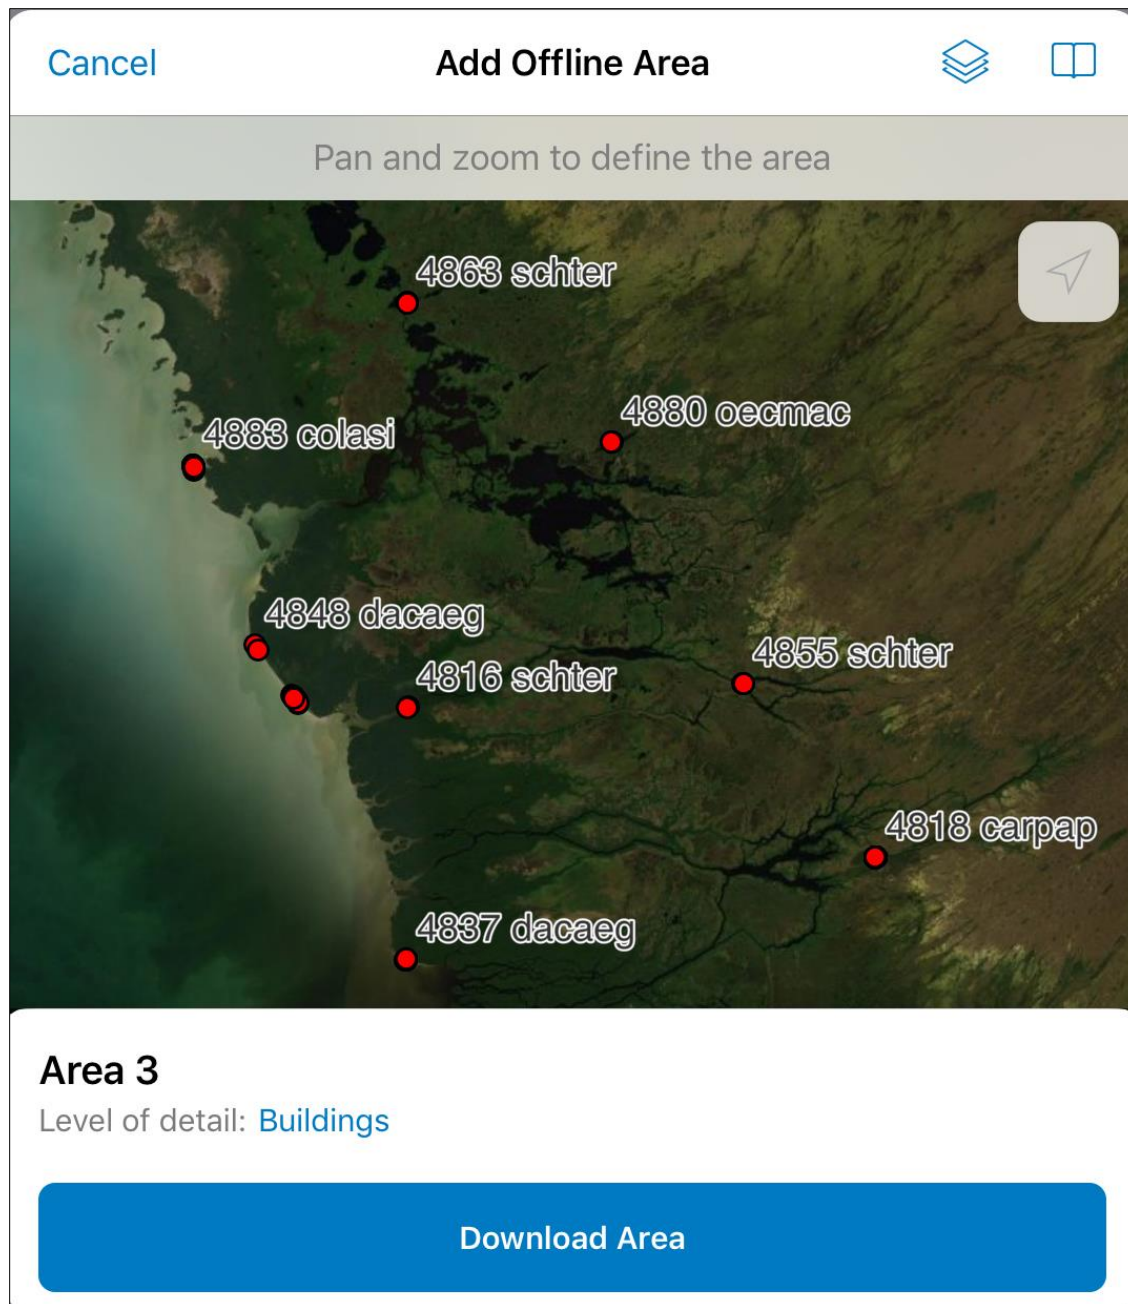

Figure 10. The Add Offline Area screen on the Collector for ArcGIS app is used to pan and zoom to define the area of the offline map.
6. The “Add Offline Area” window now appears (Figure 10). Pan and zoom to define the area of the offline map. Under the ‘Level of detail’ option select ‘Street.’ Then click the ‘Download Area’ blue button.